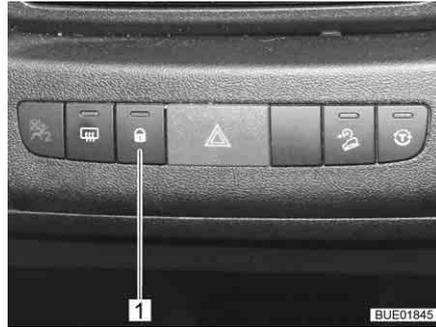

Fig. 63 Switch for the central locking system (Elegance)
- Press the button (Fig. 63,1). The door locks are unlatched.
- Press the button (Fig. 63,1). The door locks are locked. The indicator lamp in the button lights up.